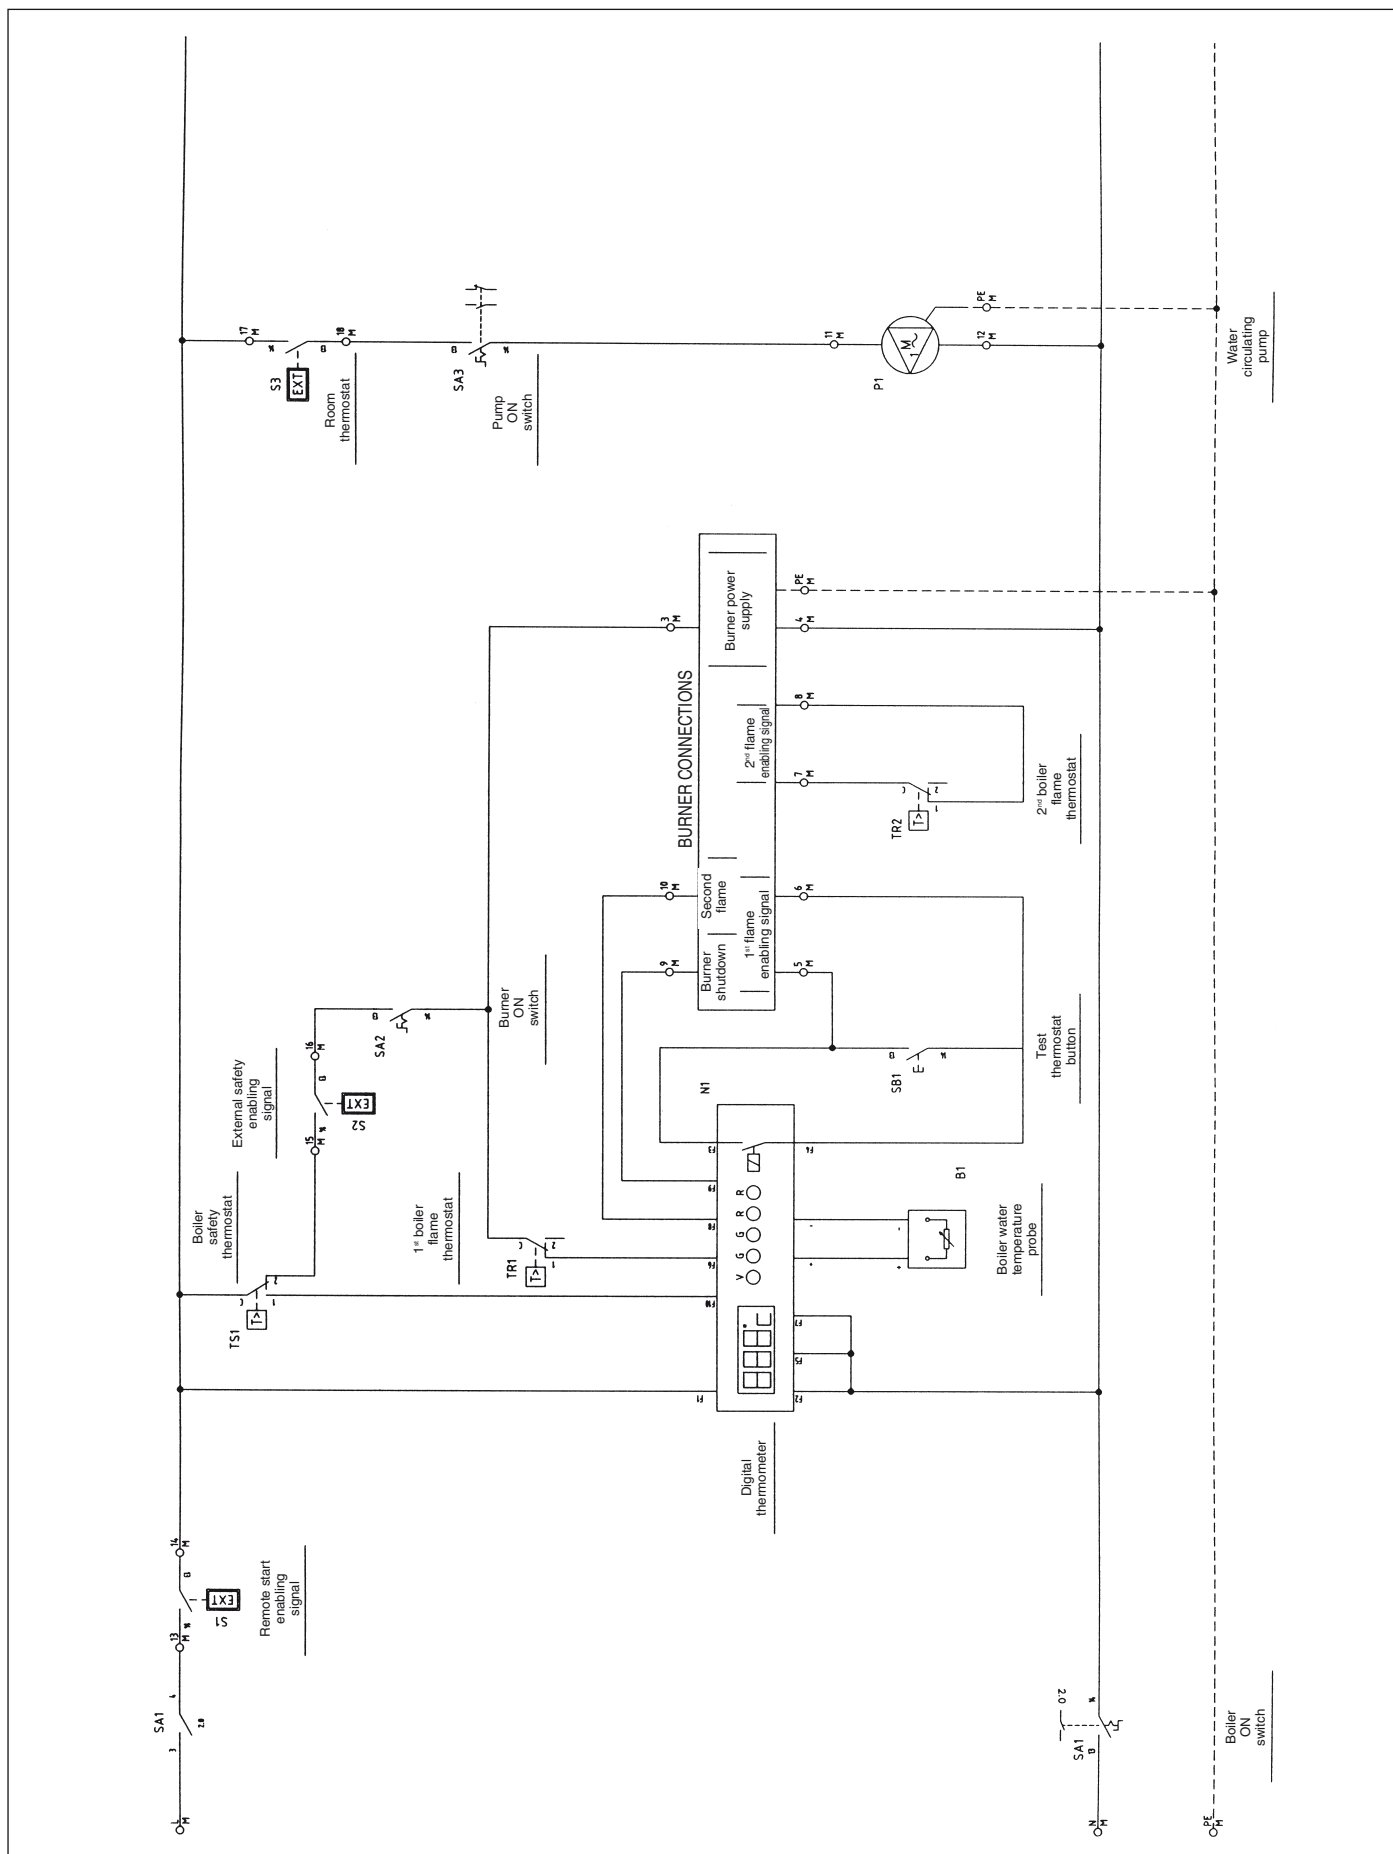

Fig. 17
9.4 Cleaning the boiler (Fig. 17)